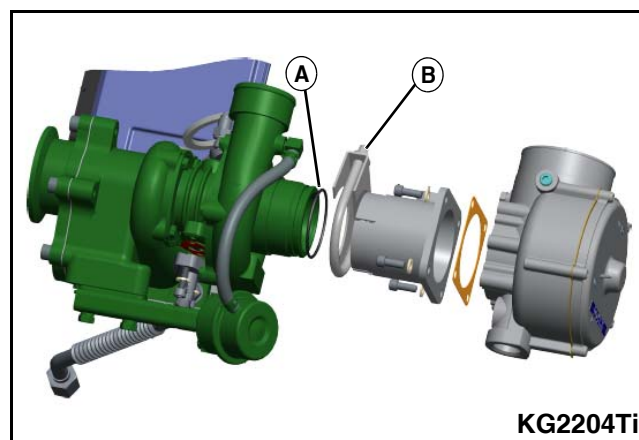

Figure 3-51
3. Inspect the O-ring (A) on the turbocharger compressor inlet and replace if damaged. Connect the inlet adapter to the turbocharger compressor inlet. Install the clamp onto the inlet adapter using two nuts. Tighten the nuts (B) to $14 \pm 1 \text{ N}\cdot\text{m}$ ($10 \pm 1 \text{ ft}\cdot\text{lb.}$). **See Figure 3-51.**